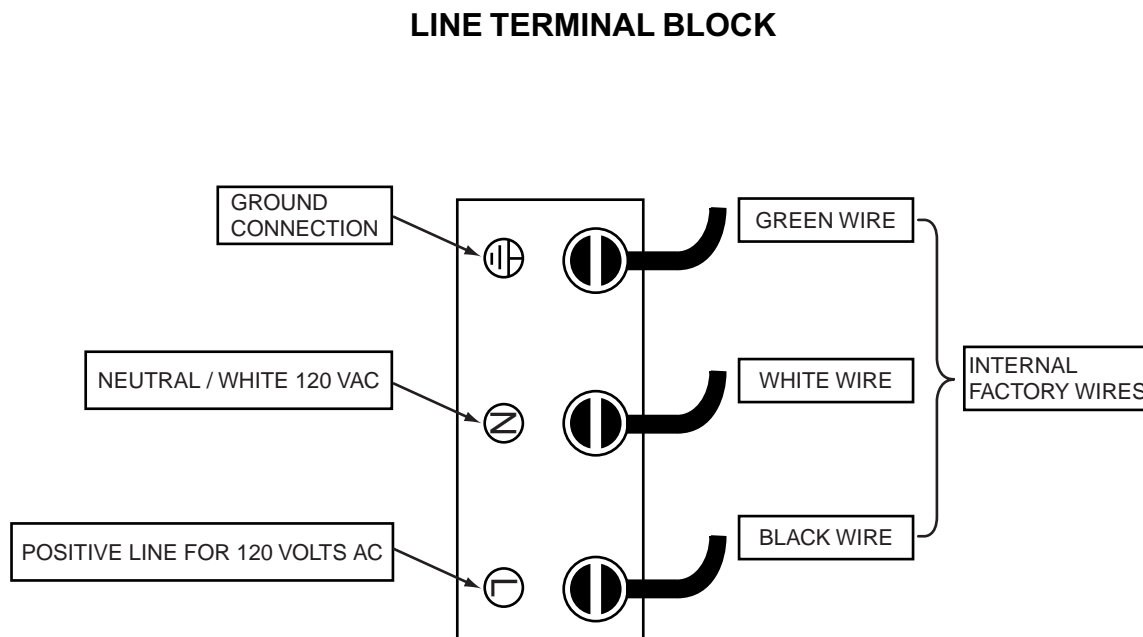

Figure 5.
The transformer is pre-wired at the factory for 120 VAC operation, connect line supply to the line terminal block inside junction box. Use caution in connecting supply to proper Line (L), Neutral (N), and Ground (GND) terminals; see below, Figure 5.